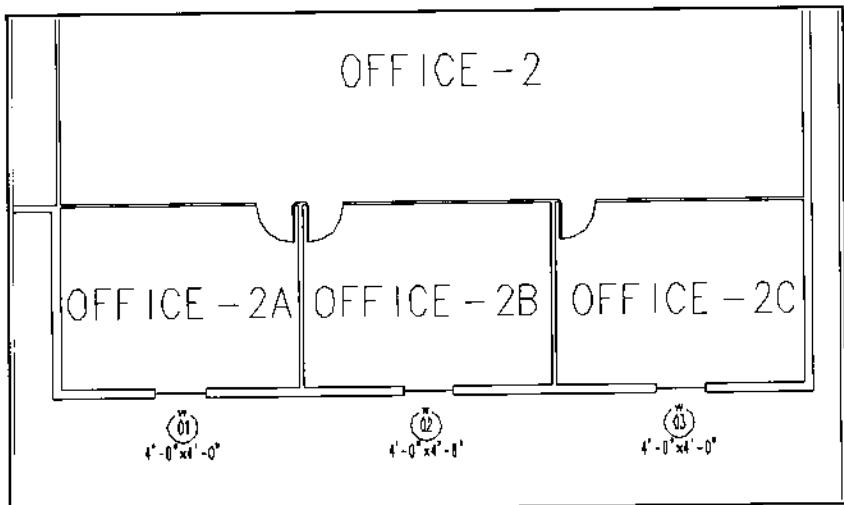

Figure 23.
1. Insert windows 02 and 03 at the midpoint of the interior wall lines in rooms OFFICE-2B and OFFICE-2C as shown in Figure 23.